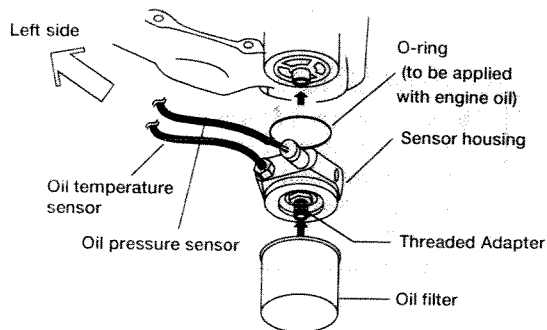

Figure 3-5
5. Lightly apply engine oil to the O-ring of the sensor housing. (Figure 3-5)
6. Insert the threaded adapter into the sensor housing and secure the sensor housing to the engine by tightening the threaded adapter (be sure sensors are facing the left side of the vehicle). (Tightening torque  $20 \pm 5 \text{ N} \cdot \text{m}$  ( $14.8 \pm 3.7 \text{ ft} \cdot \text{lb}$ )). Then, reinstall the oil filter. (Figure 3-5) To reinstall the oil filter, first gently screw the oil filter into the sensor attachment using your hand. When you feel that the filter cannot be screwed in any more using the same force, further tighten up the filter by about one turn.